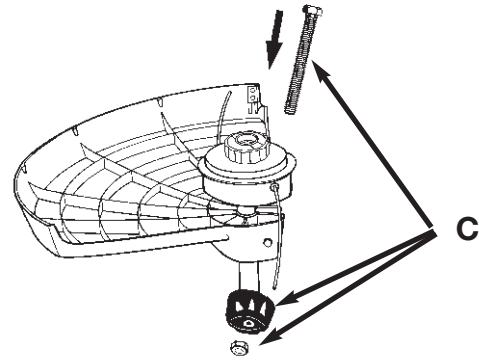

Fig. 2
2. Place the debris shield (A) on the tube so the holes align with the slots on the bracket (B). (Figure 2)
3. Install the Shield knob and nut (C) and tighten securely.